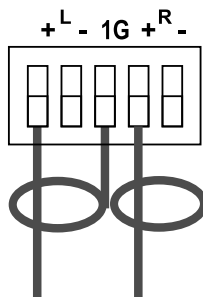

Figure 8: Connecting an Unbalanced Output
- An unbalanced audio output, see Figure 8